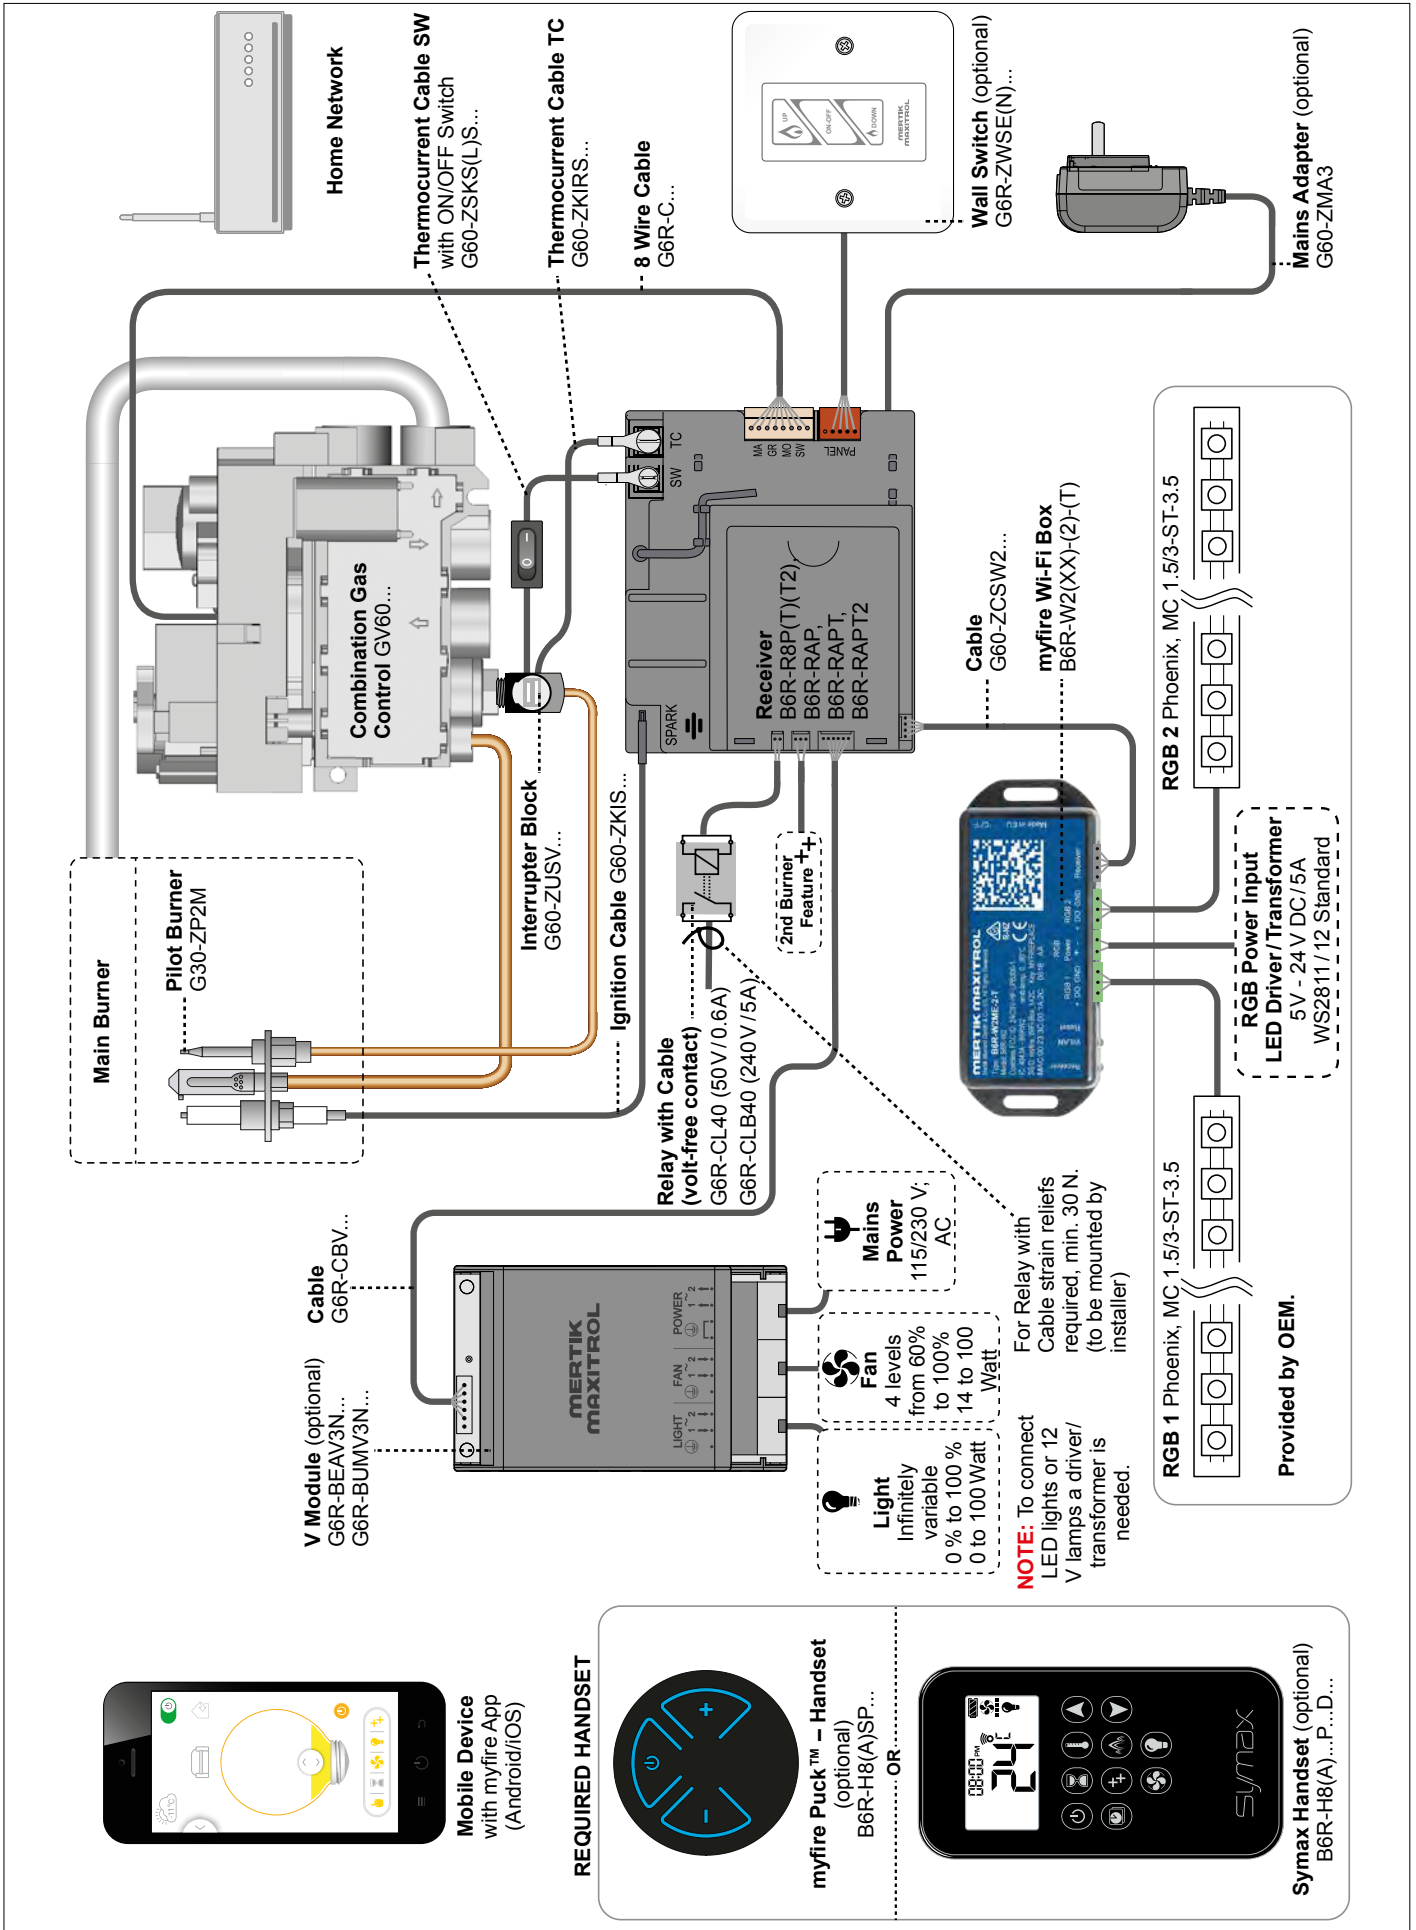

Figure 32
1. The myfire Wi-Fi Box must be wired to the receiver according to the myfire App setup diagram (see figure 32, page 30).